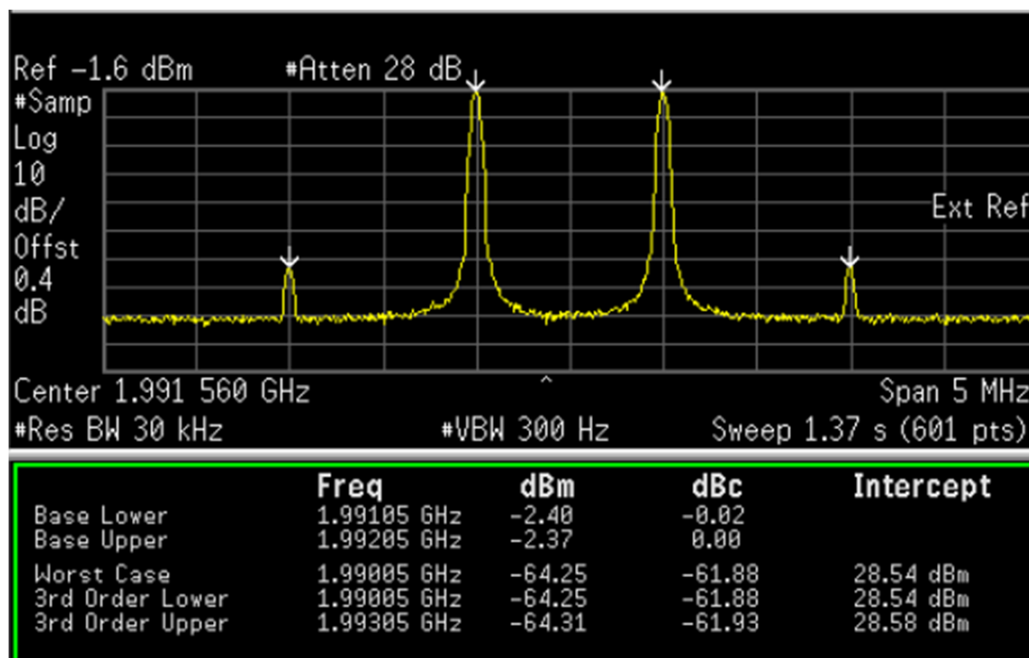

Figure 9. TRF3722 OIP3
14. Measure the TRF3722 output OIP3. The OIP3 at LO 1986.56 MHz should be around 28.5 ± 2 dBm, as shown in Figure 9.